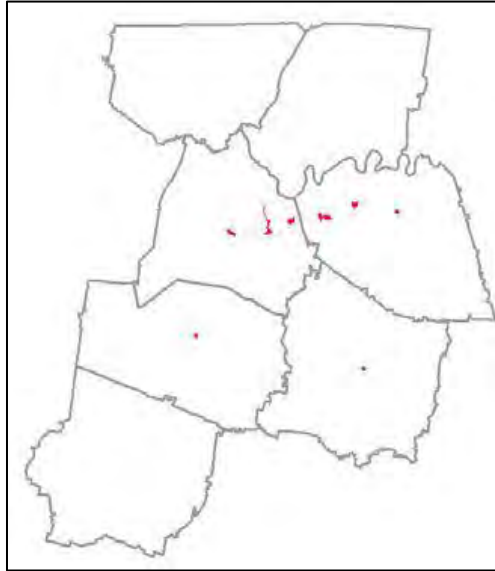

Figure 17. Proximity to Transit Stations
2. Proximity to Transit Stations/Park-N-Ride Lots (Figure 17): Census blocks within ¼ mile of existing transit stations and park and ride lots.